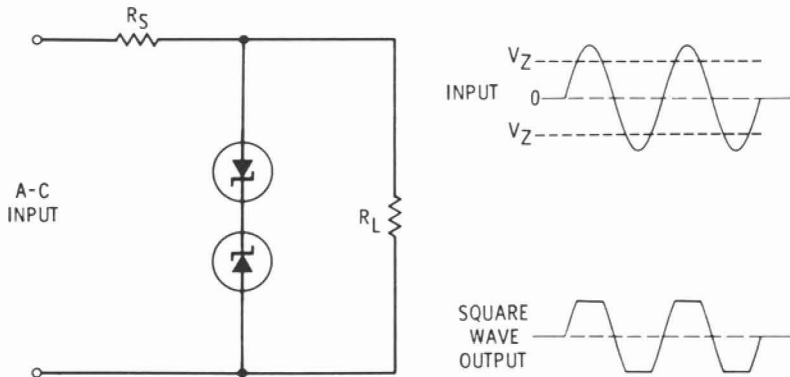

Fig. 6-8. Zener-diode clipper.
Another interesting application is the zener-diode clipper shown in Fig. 6-8. Two zeners are used back to back so that when the polarity of the input is such that one conducts as a zener, the other acts as a regular diode. If an alternating sine wave is applied to the input, a square wave will result
- Q6-8. The zener diode in the illustration of Fig. 6-8 limits the collector voltage to a value equal to \_\_\_\_\_.